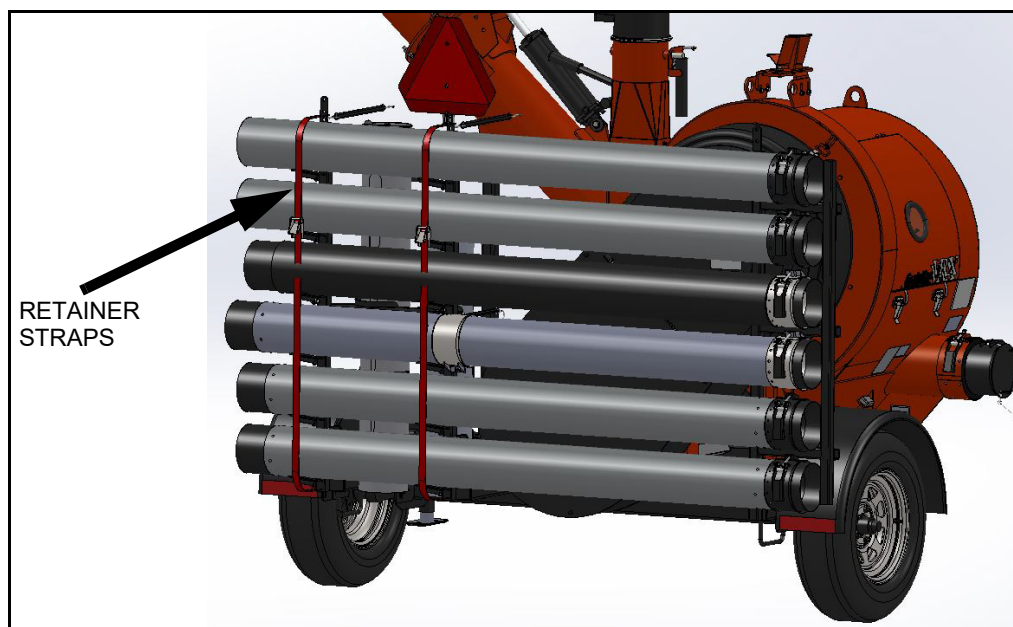

Figure 4.15 Hose Storage
4. Remove and store hoses, tubes, and nozzles in their original locations (see Figures 4.15 & 4.16).